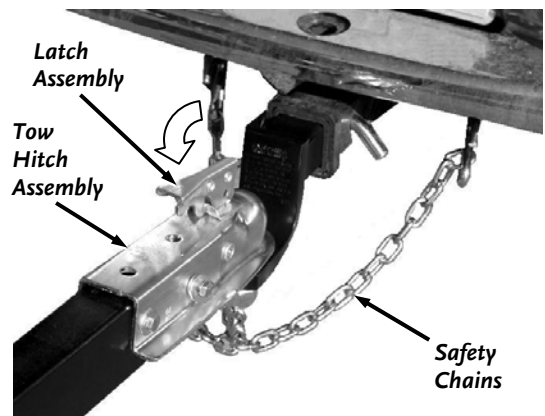

Figure 68
2. Close the Latch Assembly on the Tow Hitch Assembly to lock it onto the Tow Ball (**Figure 68**). Attach the towing Safety Chains to the tow vehicle ensuring there is enough slack for turning.